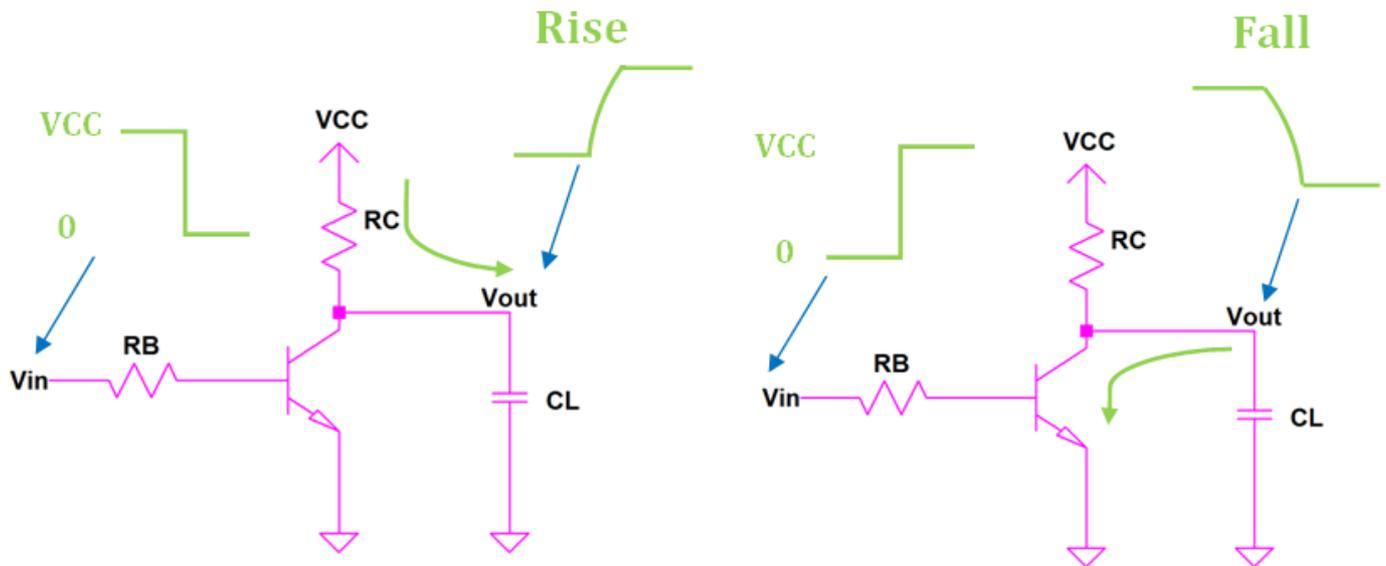

Fig. 4: Schematic showing the rise and fall of the output voltage for a basic BJT inverter
6) Consider BJT inverter circuits in Fig. 4 and estimate the circuit parameters that will affect rise and fall times of a basic BJT inverter. If the BJT is turned on in any of the following stages, you can assume that it stays in forward-active region throughout the transitions.